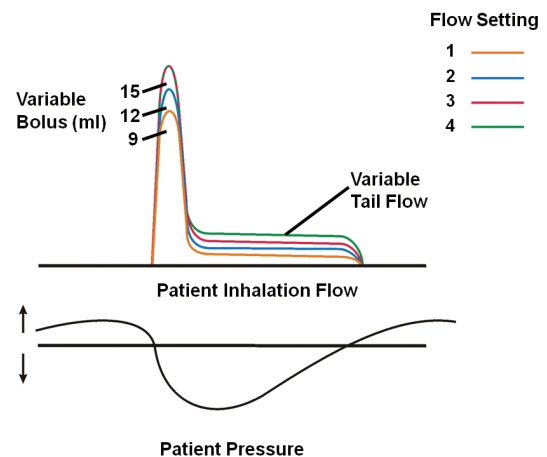

Figure 10: H300 & H850 Demand Delivery Curve
An initial volume of oxygen (called a bolus) is delivered immediately when a patient breathes in. The amount of oxygen that is delivered in this bolus is determined by the setting selected on the FCV. After the initial bolus, a smaller volume of oxygen, called a tail flow, is delivered continuously until the patient's inhalation stops. Figure 10 below is a graph showing the bolus delivery of oxygen when the H300 or H850 is in demand (D) mode.